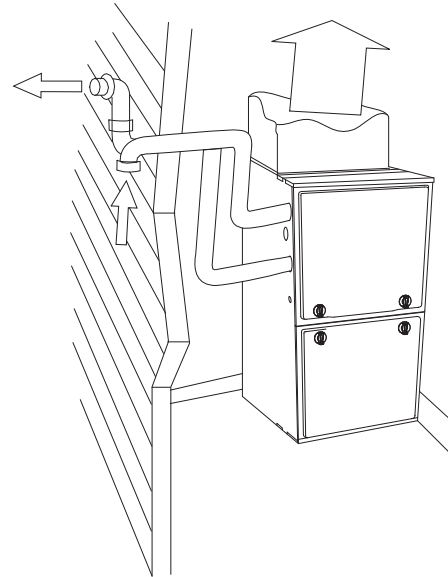
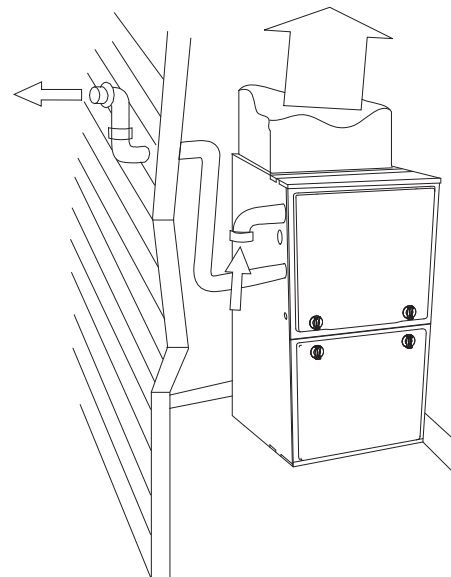

Fig. 2 - Exterior Vent Pipes
Fig. 3 - Interior Combustion - Air Pipe
- Your new gas furnace may have been installed in one of two ways, as a direct-vent (2-pipe-Fig. 2) application or as a non-direct vent (1-pipe-Fig. 3) application.
- **In a direct-vent (2-pipe) application**, your furnace uses air from outside the home for combustion and vents flue gas to the outdoors. This type of application will have two pipes running from the furnace to the outdoors. In some cases, the inlet air pipe may be located in an area that has access to outdoor air, such as an attic. In all cases, the outlet vent pipe must be routed to the outdoors. (See Fig. 2.) In this application, the vent and air-intake pipes must terminate outside the structure and must not be obstructed in any way. Do not block or obstruct air openings on furnace or spaces around furnace.
- **In a non-direct vent (1-pipe) application**, your furnace uses air from adjacent to the furnace for combustion and vents flue gas to the outdoors. This type of application will have only one pipe running from the furnace to the outdoors. (See Fig. 3.) The other pipe will terminate in the same space as the furnace and is the source of combustion air for your furnace. Therefore, the furnace must not be enclosed in an airtight room or be sealed behind solid doors. It must have adequate airflow for efficient combustion and safe ventilation. Do not obstruct the combustion-air pipe in any way. The vent pipe must terminate outside the structure and must not be obstructed in any way. Do not block or obstruct air openings or space around furnace.